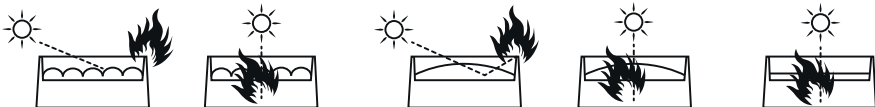

Figure 2. Lenses can focused sunlight and strong light, presenting a risk of fire and damage to the fixture. Shield or shade the head if necessary.
**WARNING!** Position or shade the head so that the front lens will not be exposed to sunlight or any other strong light source from any angle - even for a few seconds. See Figure 2. The LMH 150W Spot lens can focused the sun's rays, creating a potential fire hazard and causing damage.